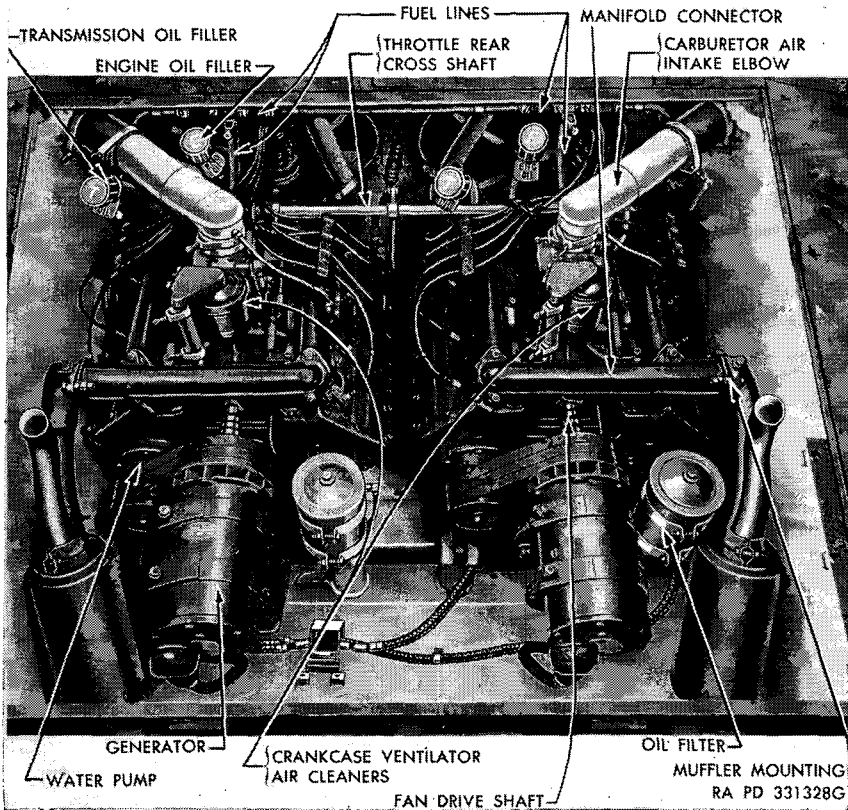

Figure 46. Engines installed.
- (5) *Install hose connections.* Working under vehicle through rear hull floor opening, install lower radiator hose between radiator and water pump inlet tube. Tighten hose clamps. Working above engine, install both outlet hoses between radiator thermostat housing and outlet connections on cylinder head. Tighten hose clamps securely.
- (6) *Connect engine feed conduit.* Line up prongs on engine feed conduit with holes on other conduit. Push both ends of conduit together and connect by screwing ends of coupling together.
- (7) *Connect tachometer flexible shaft.* Slide end of tachometer flexible shaft core into drive gear in distributor support and fasten flexible shaft casing to support with knurled coupling on end of casing.
- (8) *Connect fuel line at carburetor.* Slide rubber fuel hose over end of nipple at rear of carburetor and tighten hose clamp securely.
- (9) *Connect throttle rods.* Place springs and washers on both ends of throttle cross shaft and position cross shaft in bracket that was left on other engine. Install other cross shaft bracket and fasten to intake manifold mounting studs. Connect lower throttle relay rod to throttle cross shaft lever and install clevis pin and cotter pin. Slide throttle rod ball stud through mounting hole in throttle cross shaft lever and install nut and washer. Adjust throttle linkage as explained in paragraph 112.
- (10) *Install carburetor air intake elbow.* Slide carburetor air intake hose over elbow at engine side wall. Position other end of air intake elbow on top of carburetor. Tighten hose clamps securely. Install line at intake elbow and left exhaust manifold. Tighten couplings at both ends.
- (11) *Install muffler and exhaust pipe.* Lower muffler assembly into position next to engine compartment side wall (fig. 46). Position a new exhaust pipe gasket between muffler and exhaust connection. Install two screws, nuts, and washers.
- (12) *Fill cooling system.* Install drain plug in bottom of transmission and install drain cover plate. Fill cooling system with coolant (each system 40 qt, approx). Install radiator cap, making sure gasket is in good condition.